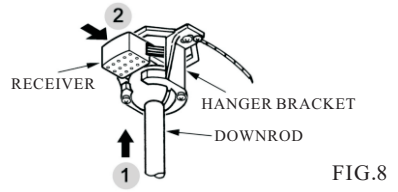

FIG.8
- Carefully lift the fan and seat the down rod ball assembly on the hanger bracket. Be sure the groove in the ball is lined up with tab on the hanger bracket. Do not pinch wires between the ball and down rod assembly and hanger bracket. (See fig.8)